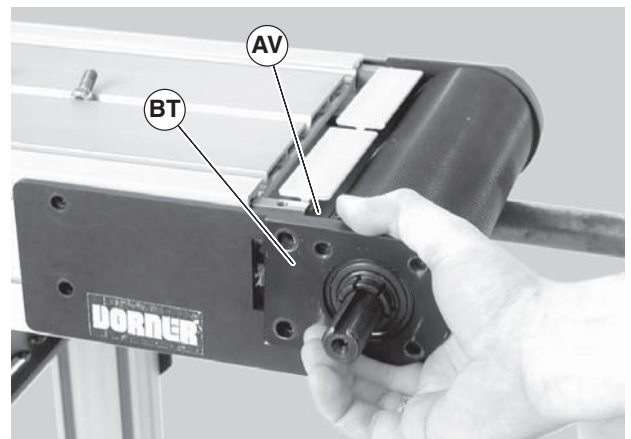

Figure 53
7. Remove the outer headplate assembly (Figure 53, item BT), and inner spacer (AV).